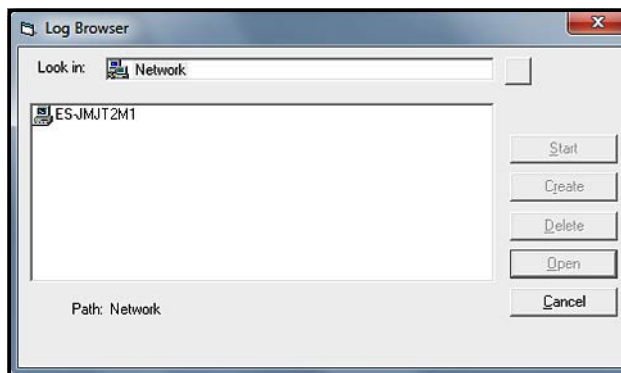

Figure 66: Create a Meter Log
- d. Double click on *meter logs* to move to the network level shown in *Figure 66* below.
- e. At the dialog box shown in *Figure 66* above, click on the **[Create]** button to create a new meter log.